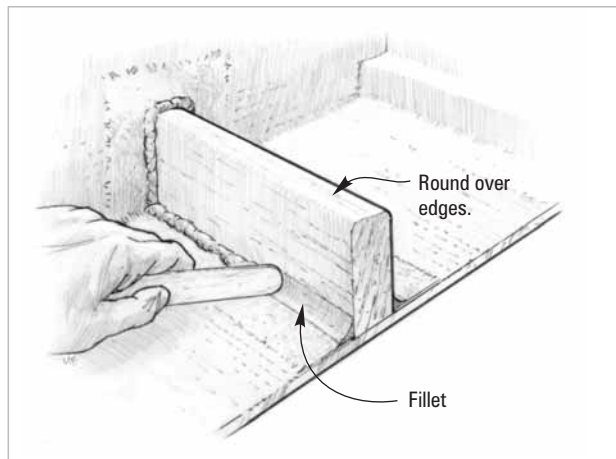

Figure 3-4 Epoxy mixture should squeeze out of the joint. Shape the squeezed out epoxy into a fillet.
7. Shape the squeezed out epoxy into a fillet (*Figure 3-4*). Apply additional thickened epoxy to the joint if necessary for a smooth $\frac{1}{2}$ " (12mm) radius fillet. Shape and clean up excess epoxy before it cures. Remove clamps after epoxy cures thoroughly.